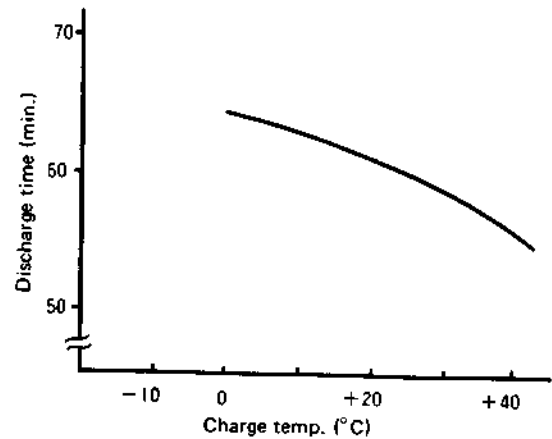

Fig. 5
- 2) The Fig. 5 curve shows the discharge (continuous operating) time versus charging temperature for the combination of BP-N77 and VP-77EG/EK + VC-31EG/EK (or VC-61EG/EK).